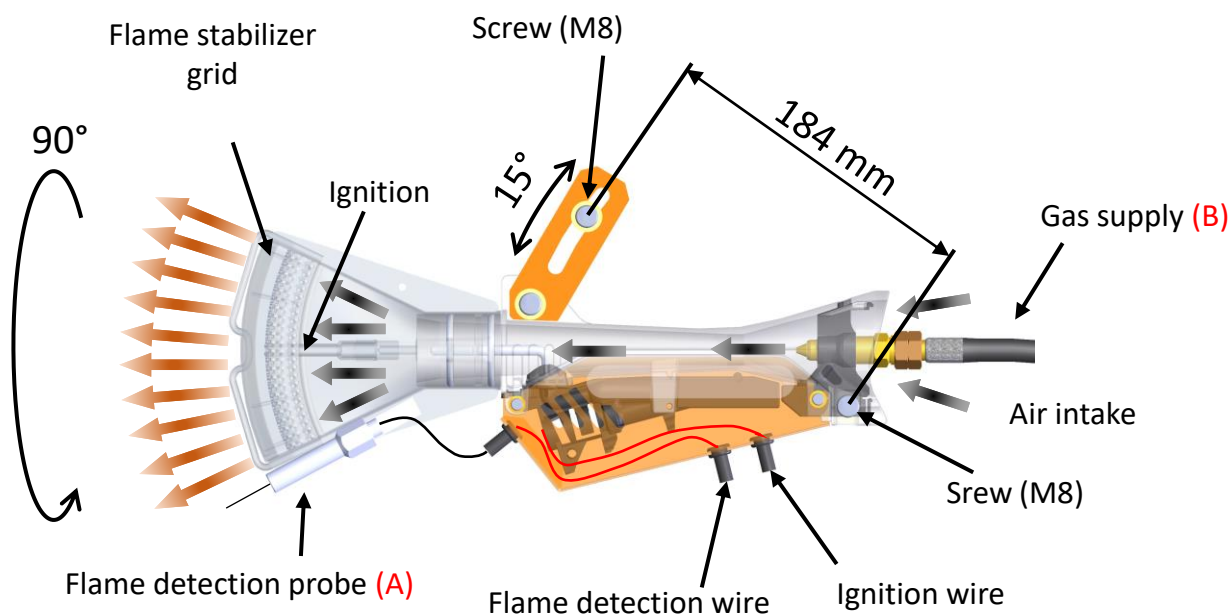

Figure 1 : Burner
The burner (C) must be installed using the 2 M8 fixing screws. Two adjustments are possible, orientation of the assembly by 15° and rotation of the combustion nozzle by 90° (figure 1).